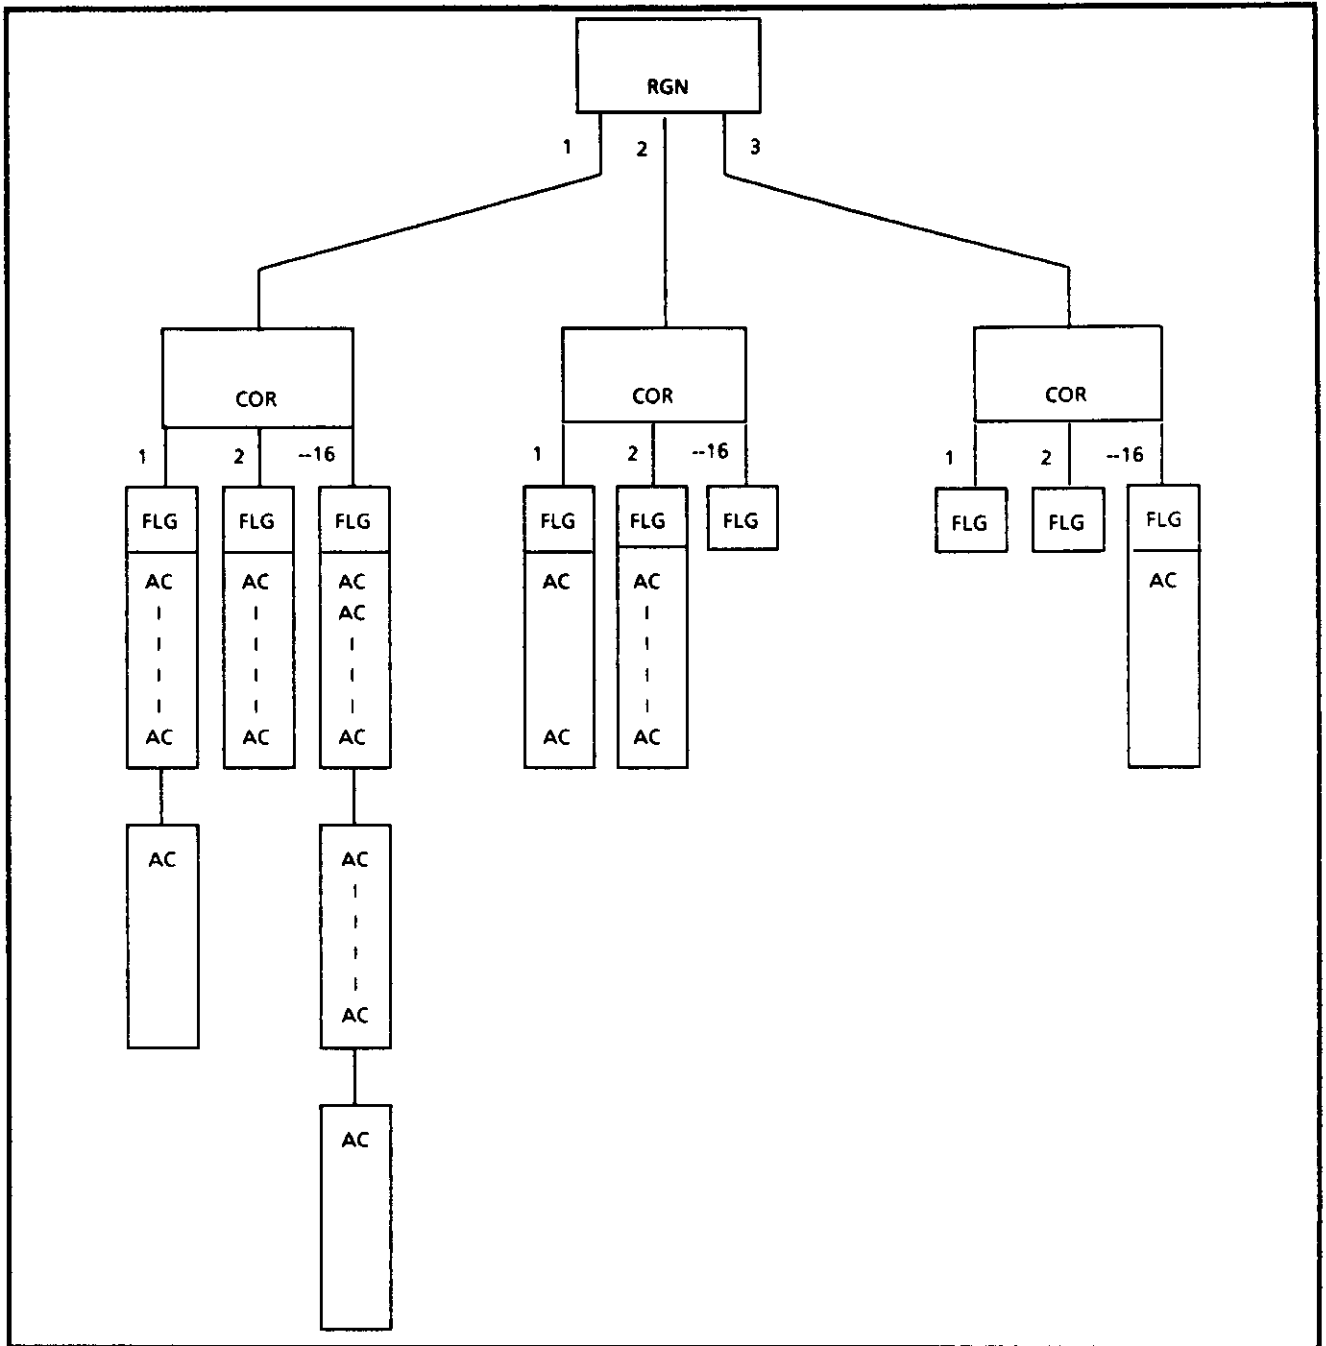

Figure 4.20 Area Code Restriction Table Hierarchy.
4.64 The Area Code Restriction Assignment (CMC 413) table is used to create a list of Area Codes to which connections are allowed or denied for each Class of Restriction within a Restriction Group. Figure 4.20 shows the hierarchy of this table's organization. This CMC requires a HIGH level security code.